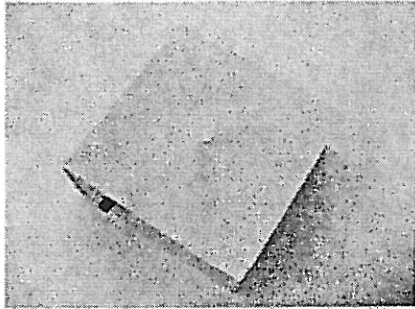

Fig. 1
1. Obtain a piece of hardboard that is 6" x 6" and locate the center. An "A" size bit is used to drill hole (depends on straw diameter). This is where the fiber optics will come through. (Fig. 1)